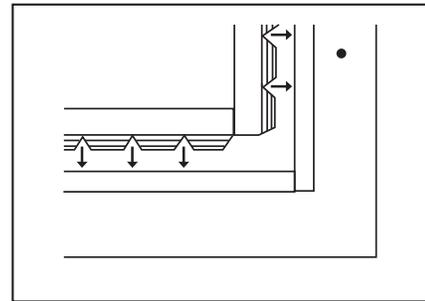

FIG. 1a
- 1) The Mirror Assembly (A) comes with the Mirror (B) in place for security during shipping. It is held in place by pieces of a Glass Retainer (E). If you need to remove the Glass Retainer (E) prior to finishing your Beveled Mirror (if you purchased the AUF version), place the Mirror Assembly (A) on a clean protected surface and remove the Glass Retainer (E).
After the finish is dry, replace the Glass Retainer pieces (E) as shown in Fig. 1a.